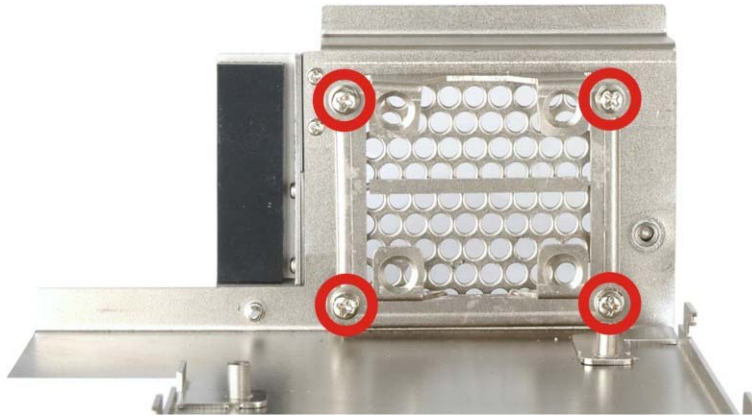

Figure 3-9: Remove the Fan Bracket from the Cover
Step 4: Unscrew the four retention screws that secure the fan bracket to the cover. (**Figure 3-9**). Remove the fan bracket from the cover.